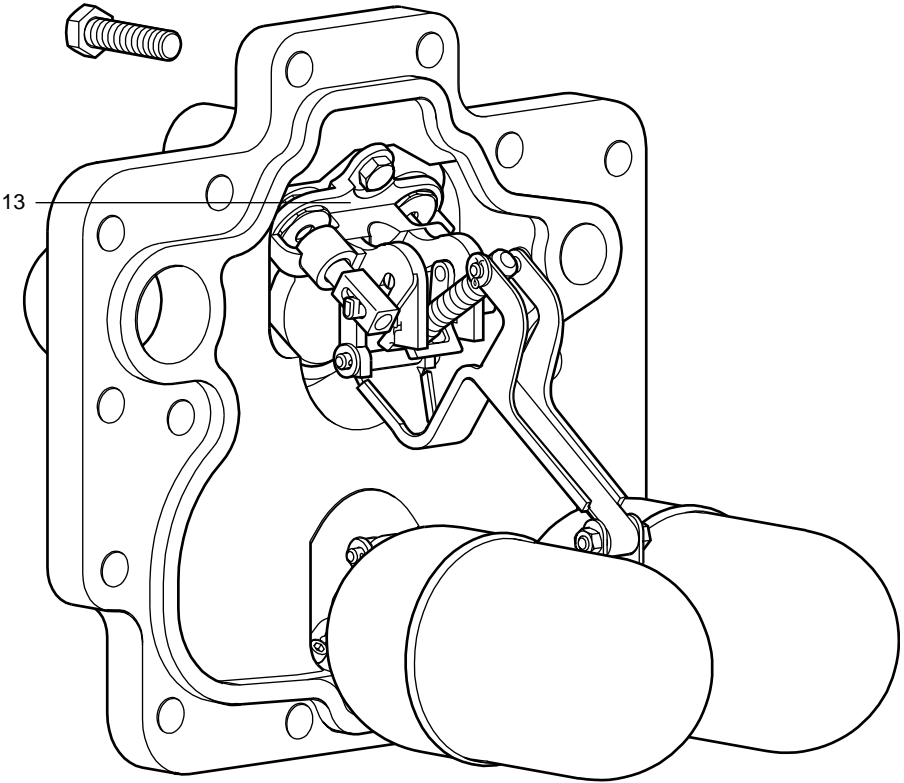

Fig. 25
19. Ensure the actuator is correctly aligned and located within the slots of the pump bracket (item 13).
21. When refitting the spring retaining shaft (Y) (30 mm long) and pump pivot retaining shaft (X) (52 mm long), always use new split pins and washers.
**Note:** The valve gear has been designed to be adjustment-free, simplifying the fitting of new parts. If after assembly the mechanism does not operate correctly, check all the parts are assembled and aligned as per Fig. 25.
27. Carefully reconnect the motive steam supply and the exhaust lines to the connections marked (IN) and (OUT). The APT14 is now ready to recommission.